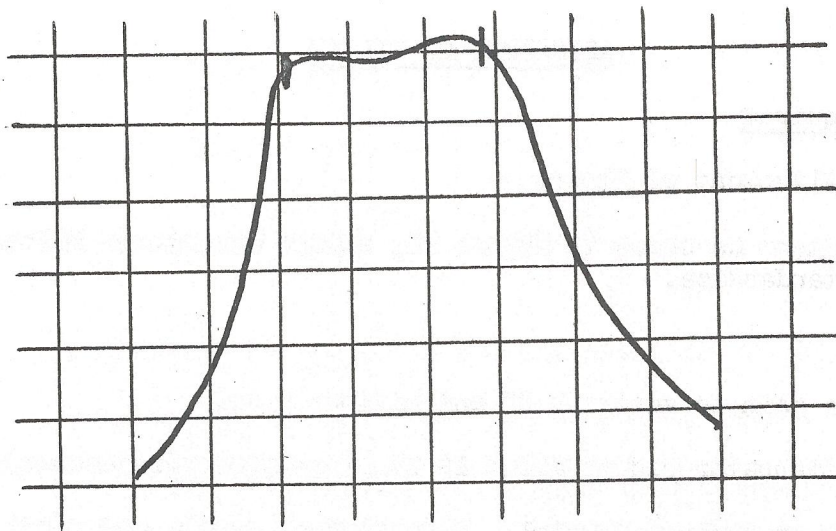

Figure 13.
5. Adjust coupling between input and output to obtain curve shape as shown in Figure 13. On the low channels, the coil coupling must be adjusted; on the high channels, the center capacitor trimmers must be adjusted.
1. Curve of Figure 13 shall not have more than 1 DB difference from maximum to minimum points within the pass band between picture and sound carriers.